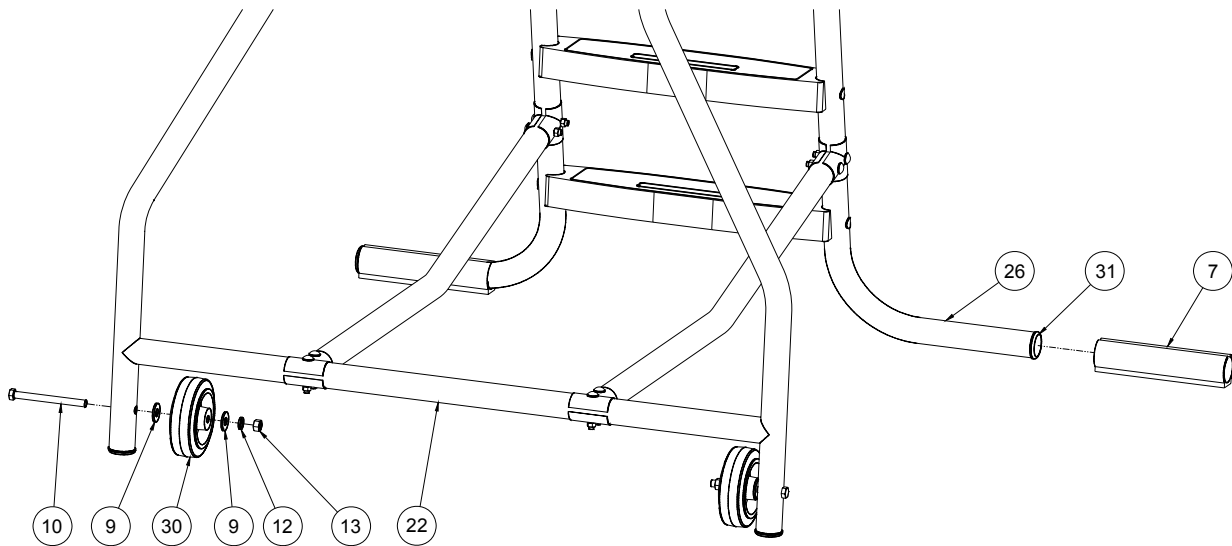

FIGURE 9
7. Install the 6" wheels using (1) 1/2"x5-1/2" hex head bolt, (2) 1/2" flat washers, and (1) 1/2" lock washer and (1) 1/2" hex nut as shown in **FIGURE 9**.
8. Attach the front rubber protective pads and fully tighten all hardware. See **FIGURE 9**.